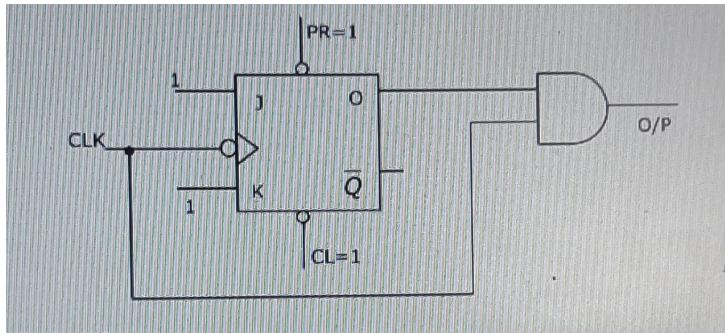

Fig. 5.26
26. The digital circuit shown in Fig. 5.26 generates a modified clockpulse at the output. Sketch the output waveform.